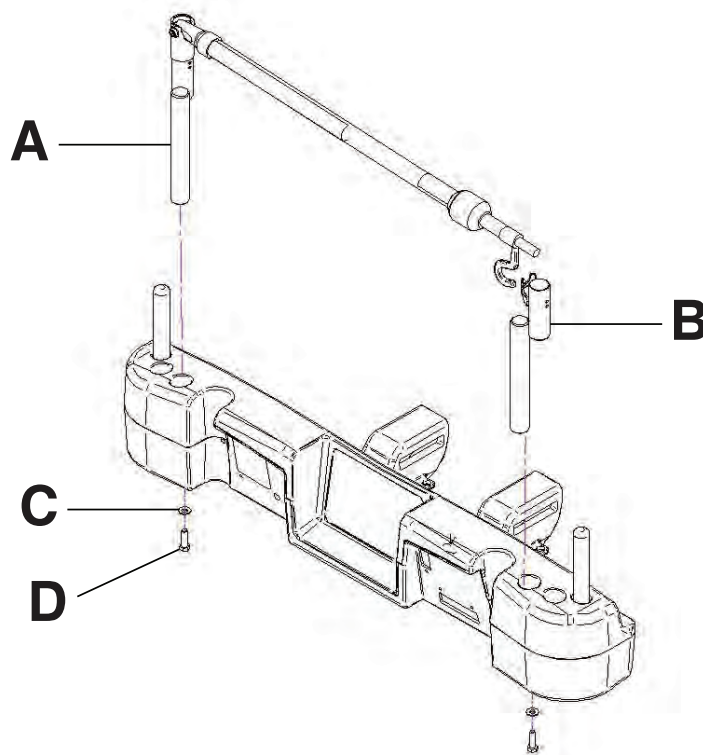

Figure 1-119: Single two stage IV pole (Left side shown)
1. Using a 3/8 in. drive ratchet and a 1/2 in. socket, install one washer (C) and one bolt (D) to secure the IV pole into the socket at the head end of the product (A) (Figure 1-119 on page 1-103).
2. Using a 3/8 in. drive ratchet and a 1/2 in. socket, install one washer (C) and one bolt (D) to secure the IV pole support into the socket at the head end of the product (B) (Figure 1-119 on page 1-103).